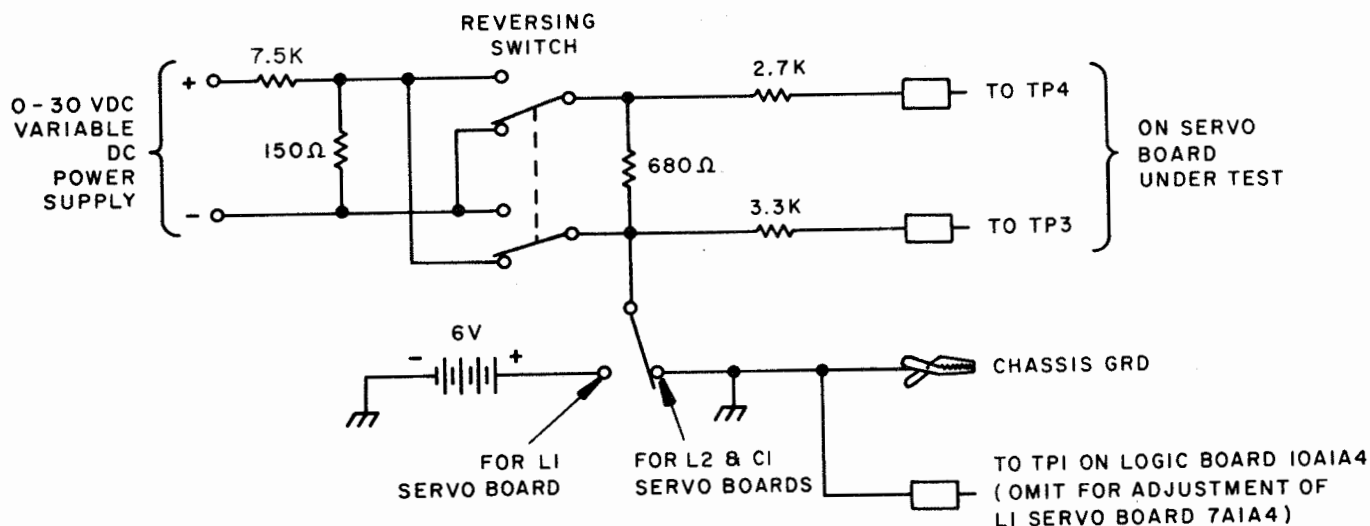

Figure 5-5. Servo Amplifier Test Fixture
- c. Servo Amplifier Test Fixture (fabricate per figure 5-5).
g. Connect DC power supply and Servo Amplifier Test Fixture as shown in figure 5-5. Set Test Fixture L1/L2 & C1 switch as applicable.